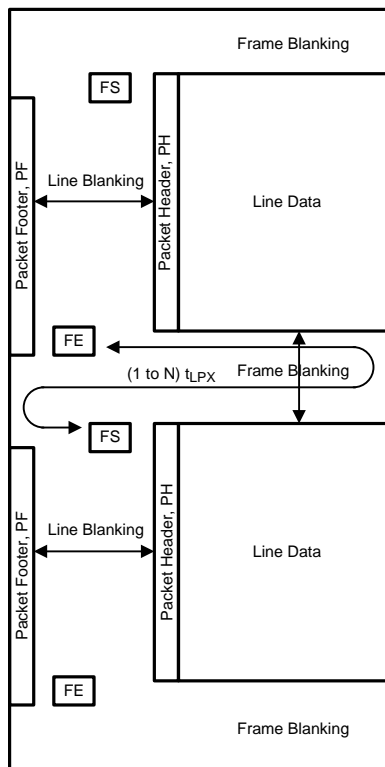

图 31. CSI-2 General Frame Format
The DS90UH940N-Q1 (in default mode) takes RGB 24-bpp data bits defined in the serializer and directly maps the bits to the pixel color space in the data frame. The DS90UH940N-Q1 follows the general frame format as described per the CSI-2 standard (图 31). Upon the end of the vertical sync pulse (VS), the DS90UH940N-Q1 generates the frame end and frame start synchronization packets within the vertical blanking period. The timing of the Frame Start will not reflect the timing of the VS signal.